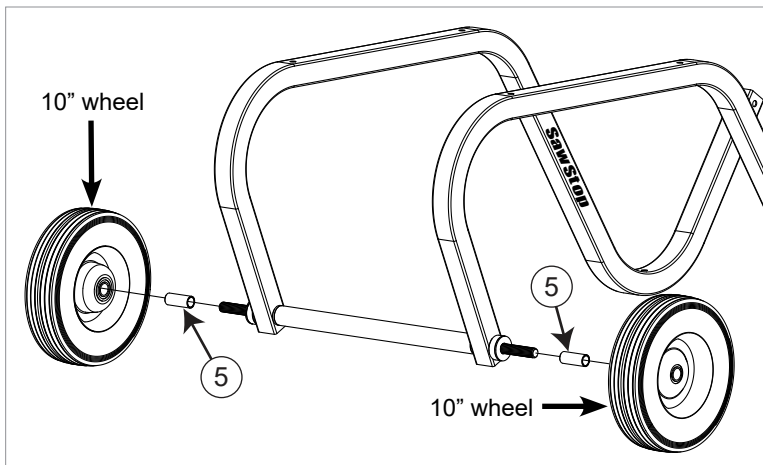
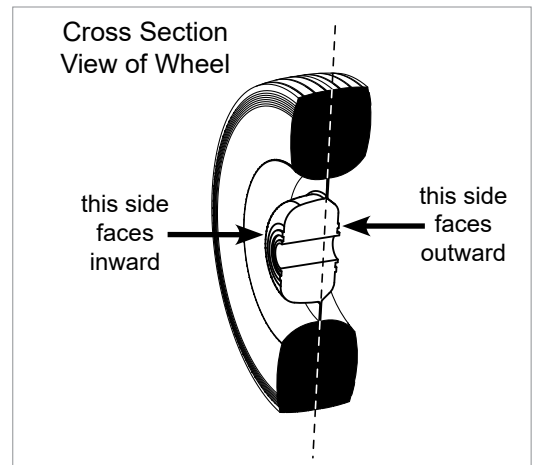

Fig. 5a
Fig. 5b
5. Slide one wheel axle spacer onto each end of the wheel axle as shown in Fig. 5a. Then slide one 10 inch wheel over each wheel axle spacer. Be sure that the side of the wheel with the raised interior is facing inward towards the frame (see Fig. 5b). If the wheel is installed incorrectly it will rub against the side frame.